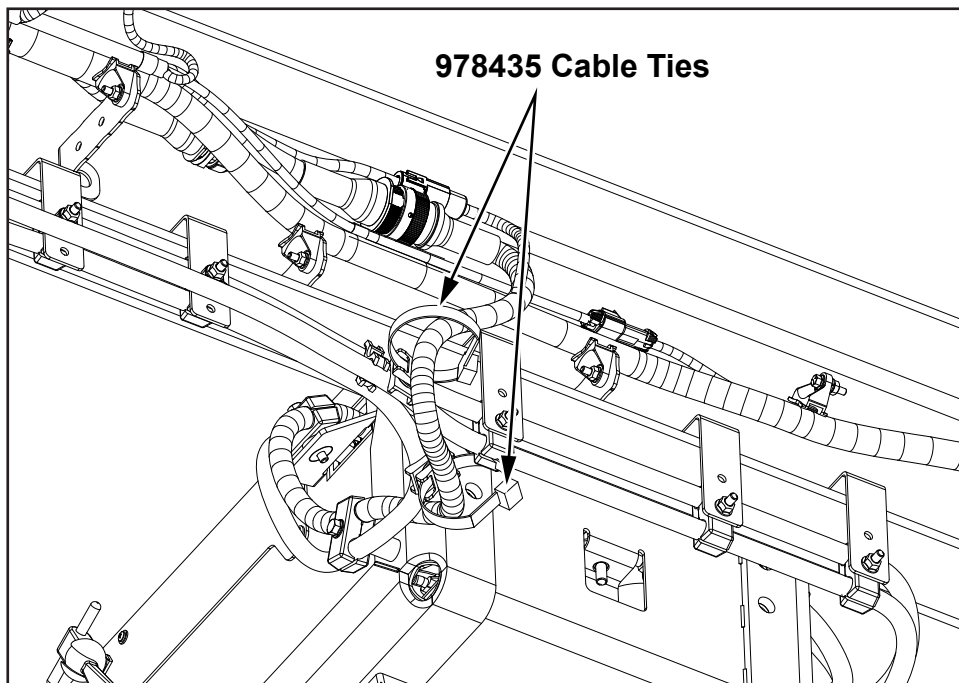

Figure 11a
19. Route and clip the A8710105-005 harness from the battery box to the chassis harness using the GZ220006-001 dual clamp ties, 980464 cable ties and the 978435 cable ties (see *Figures 11a and 11b*).